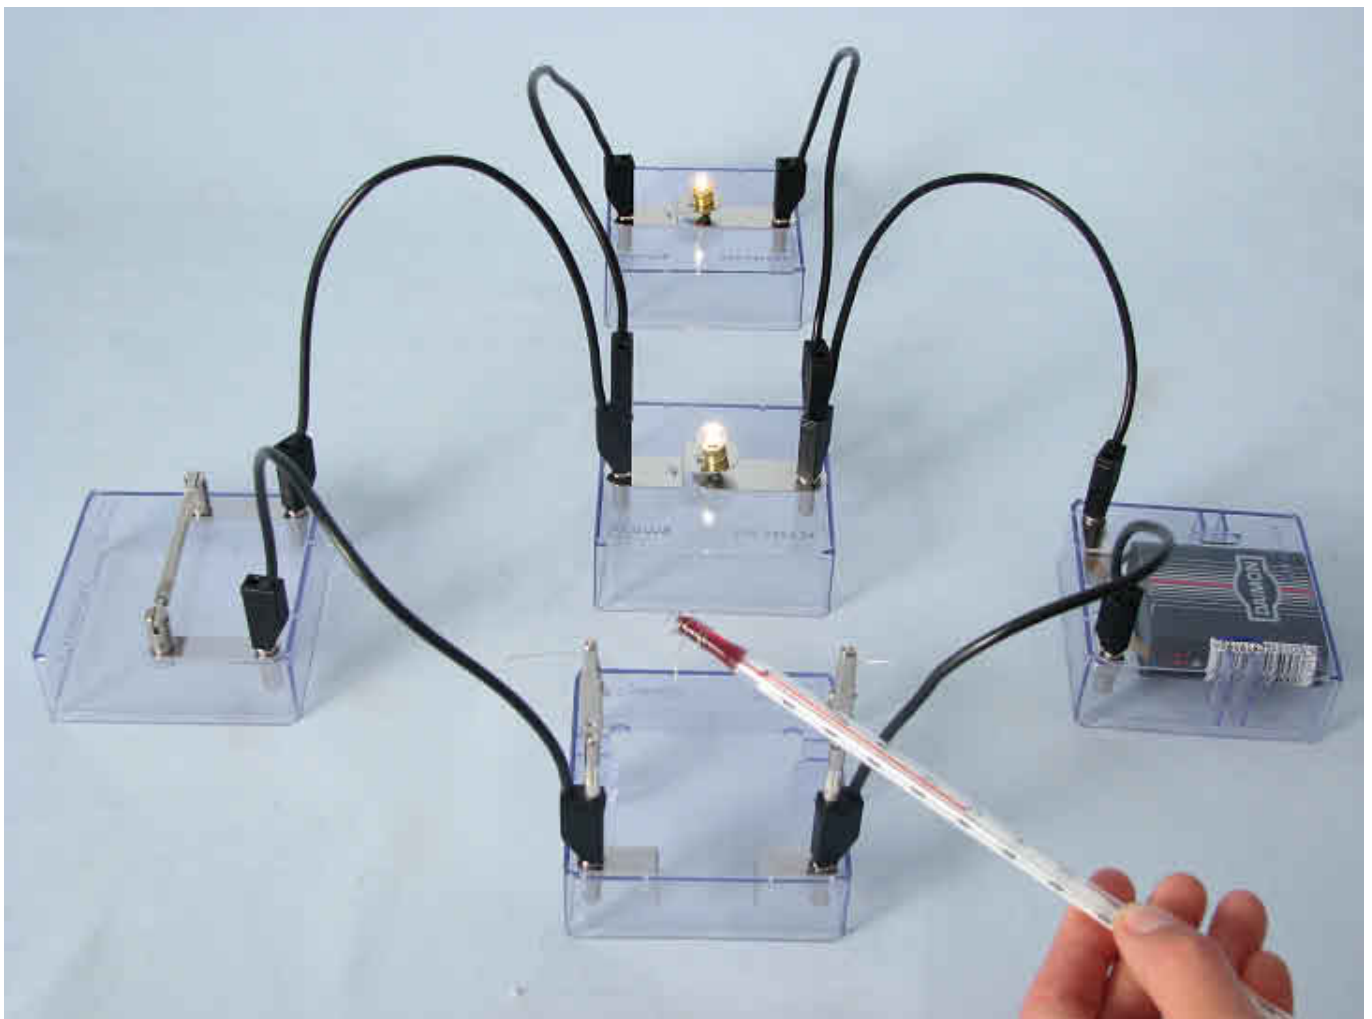

Fig. 1
- Hold the thermometer in the looped wire and read the temperature (Fig. 1).